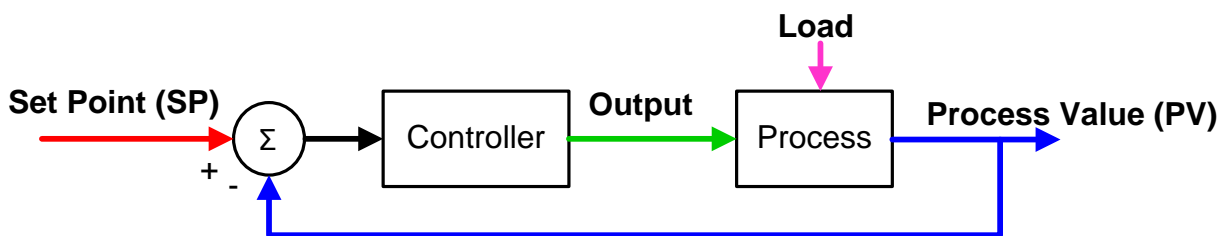

Figure 1. Basic feedback control loop.
- feedback control loops (Figure 1) in continuous and batch processes.
We assume the controller block in Figure 1 contains a PID algorithm. The process block includes the final control element or slave loop, the process to be controlled (chemistry, hydraulics, thermal energy, etc.) and the sensor/transmitter. Lambda tuning gives a non-oscillatory response to setpoint changes and load disturbances. You choose the response time (Lambda or  $\lambda$ ) to fit the control strategy and the unit production objectives. Most of the processes in your plant will fit either the first order model or the integrator model.